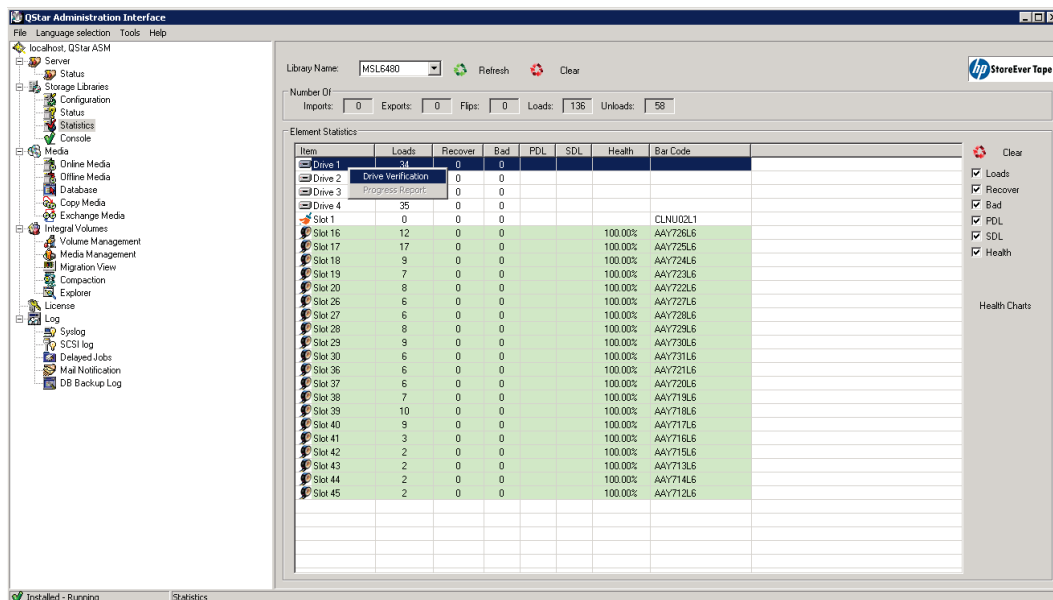

Figure 27. Selecting a drive for drive verification
1. Right-click on the drive you intend to test on the **Statistics** page under **Storage Libraries** and select **Drive Verification**. See **figure 27** as an example.